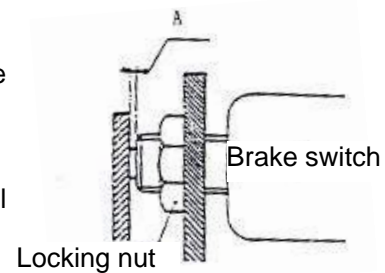

Fig. 2-34 Brake Lamp Switch
(5) Adjust the brake switch (see Fig. 2-34).